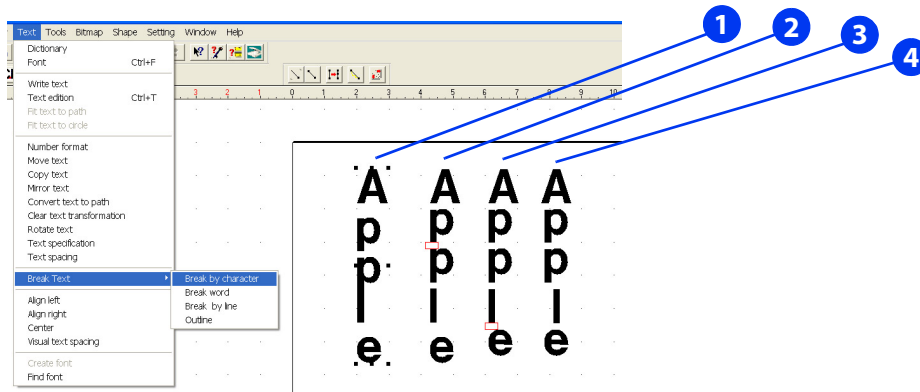

Figure 136
- 3 From the **Text** menu, click **Break Text/Break by Character**. This separates the word into individual letters. See column 1 in figure 136.